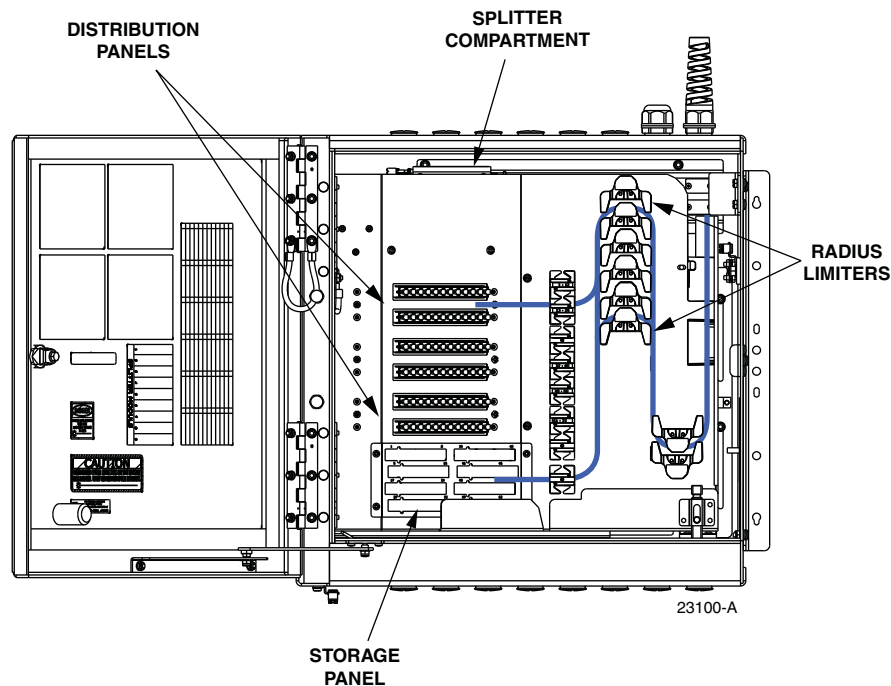

Figure 67. Routing Splitter Output Fibers
3. Use the radius limiters in the cabinet to store any excess fiber slack. Refer to Figure 67 for the routing guidelines.
6. Use the radius limiters in the cabinet to store any excess fiber slack. Refer to Figure 67 for the routing guidelines.